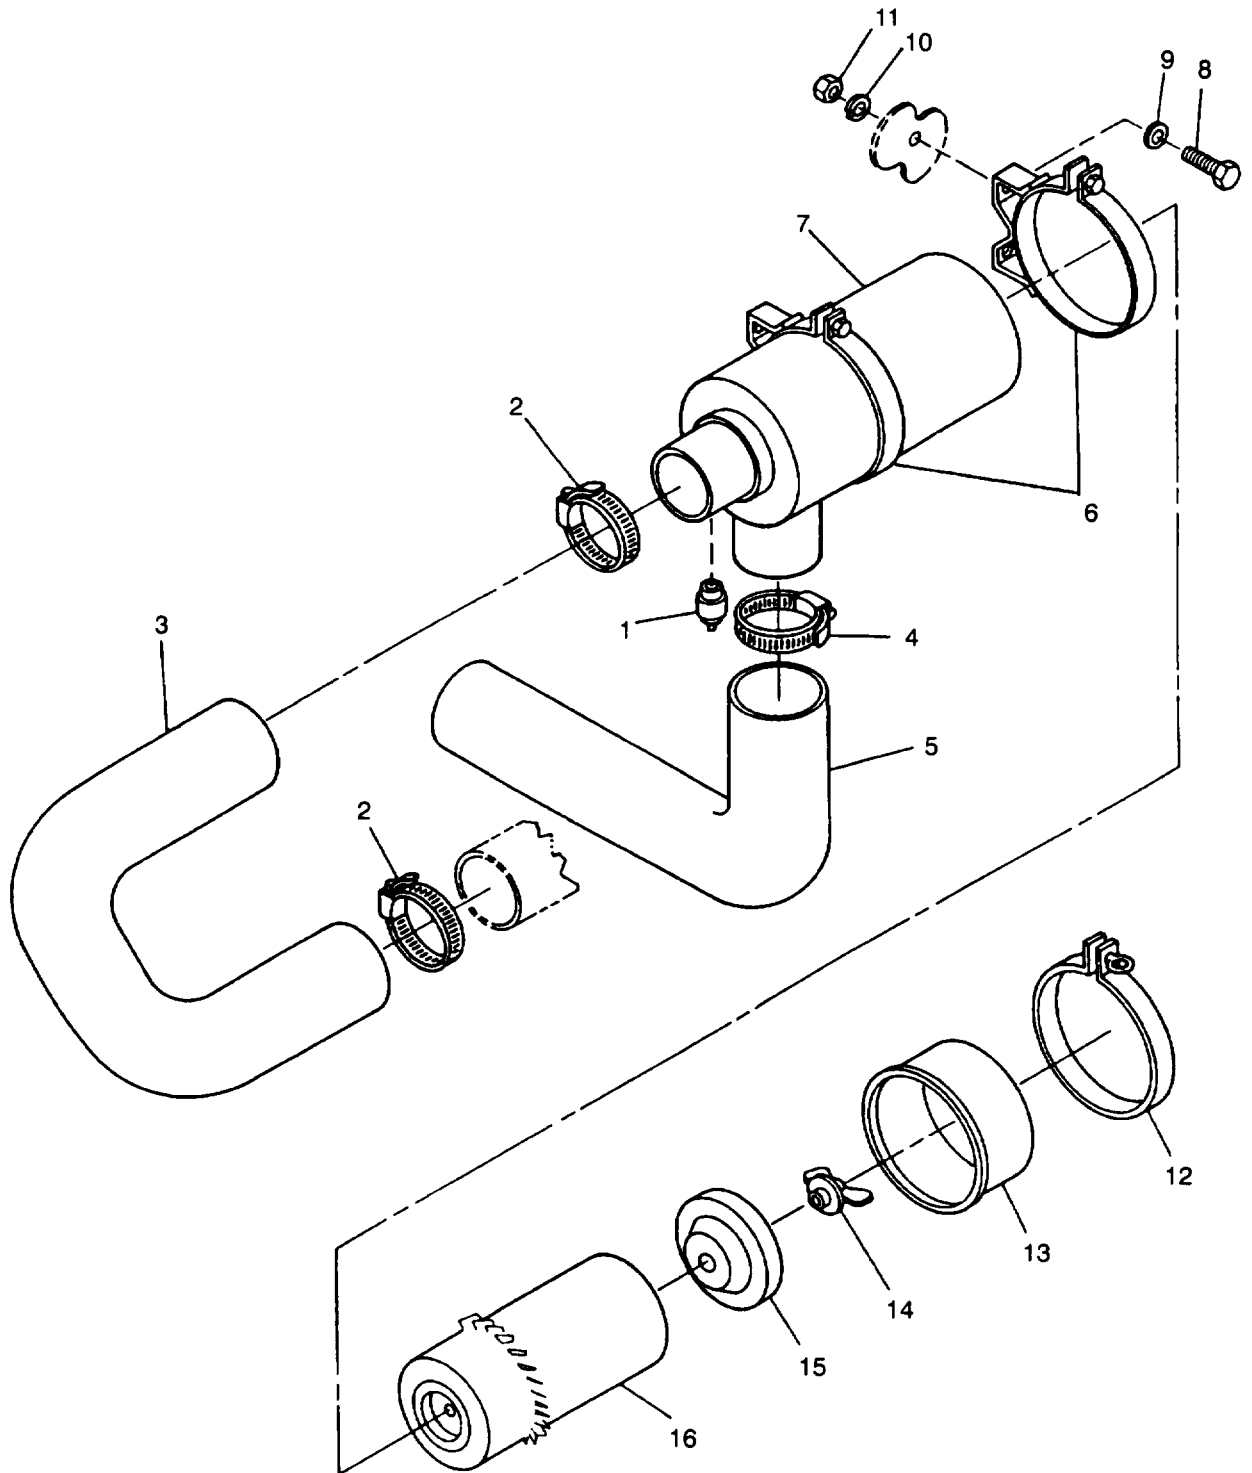

Figure 2-19. Air Cleaner Assembly
- c. Inspect air restriction indicator (1, Figure 2-19) for cracks, stripped threads, or other obvious damage.
- c. Unscrew and remove air restriction indicator (1, Figure 2-19) from air cleaner housing (7).
- a. Install air restriction indicator (1, Figure 2-19) on air cleaner housing (7).
- c. Loosen clamps (2, Figure 2-19) and remove hose (3) from air cleaner housing (7) and engine intake.
- d. Loosen clamp (4) and remove hose (5) from air cleaner housing (7).
- e. Open clamps (6) and remove air cleaner assembly from generator set.
- a. Install clamps (6, Figure 2-19) on generator set with bolts (8), washers (9), lockwashers (10), and nuts (11).
- c. Place air cleaner assembly in clamps (6).
- d. Position hose (3) on air cleaner housing (7) and intake manifold.
- e. Position hose (5) on air cleaner housing (7).
- f. Tighten clamps (6) securing air cleaner assembly.
- g. Reposition hoses (3) and (5), and tighten clamps (2) and (4).
- c. Loosen clamp (12, Figure 2-19) and remove cap (13).
- d. Remove wing nut (14), baffle (15), and air cleaner element (16).
- b. Wipe inside of air cleaner housing (7, Figure 2-19) with cleaning cloth (Item 6, Appendix C).
- c. Inspect element (16) for clogs and damage, and replace as necessary.
- a. Install air cleaner element (16, Figure 2-19), baffle (15), and wing nut (14).
- b. Install cap (13) and tighten clamp (12).